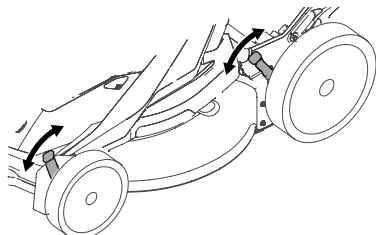

Figure 10
2. Move lever to desired position for a change in cutting height (Figure 10).